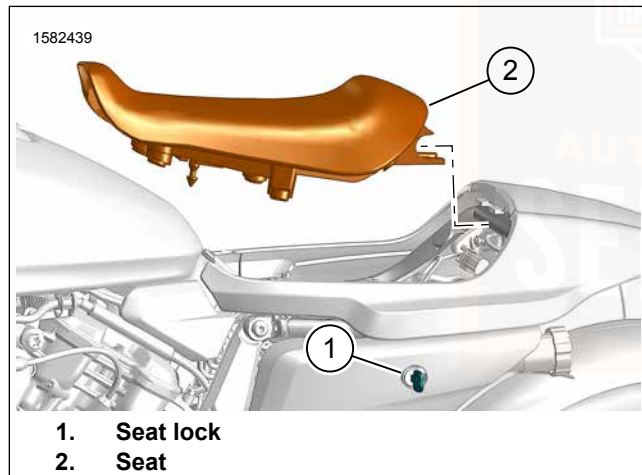

Figure 94. Seat
1. See Figure 94. Insert key in seat lock (1).
3. Lift up front of seat (2) and move forward to remove.
1. See Figure 94. Lower rear of seat (2) into position.